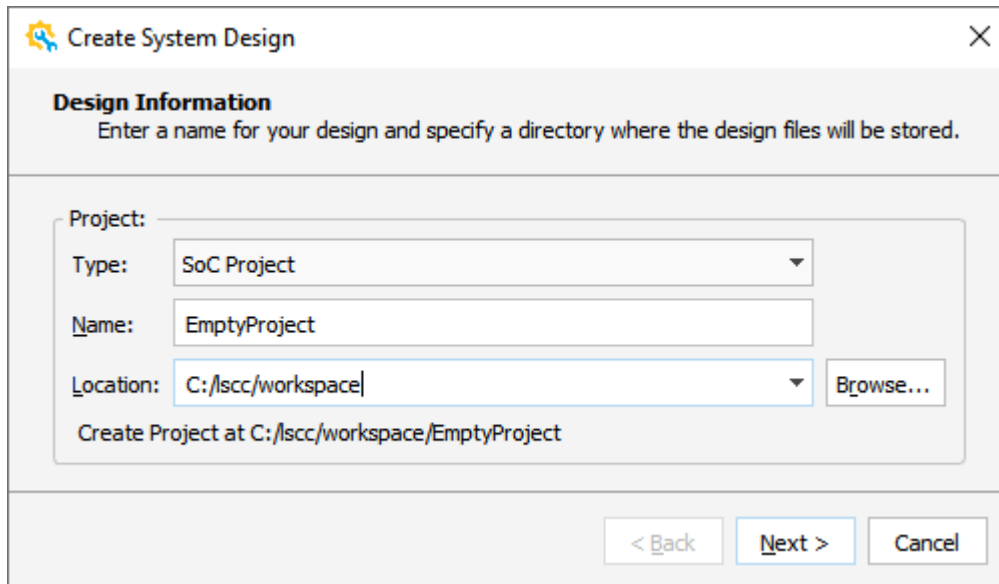

Figure 2.2. Create System Design – Design Information Wizard
1. Choose **File** >  **New Design** from the Lattice Propel Builder Menu bar. The Create System Design – Design Information wizard opens (Figure 2.2).